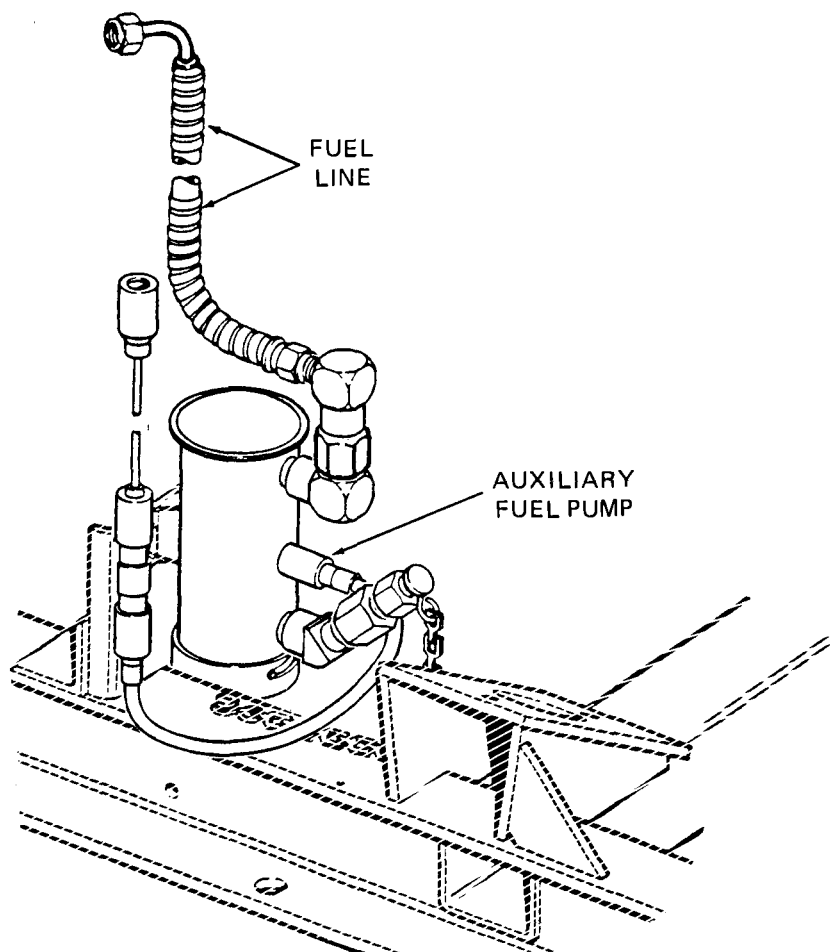

Figure 2-6. Auxiliary Fuel Pump.
- g. If an auxiliary fuel source is to be used, connect fuel line to auxiliary fuel pump (see Figure 2-6).